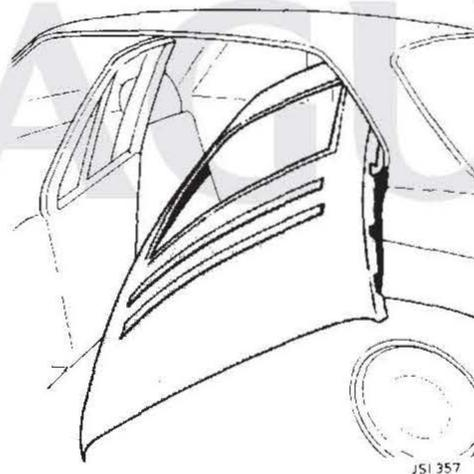

Fig. 8
3. Remove the rear parcel shelf trim panel, rear quarter trim panels, headlining rear trim roll and headlining. The headlining is removed via the rear door aperture (Fig. 8).